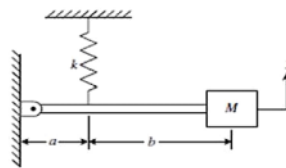

Fig. Q4(c)
4. For the system given below, draw the correct FBD for each mass, M, and the resulting EOM for the system. Then determine the resulting natural frequency for the systems. Assume the beam in Figure Q4(c) is rigid.